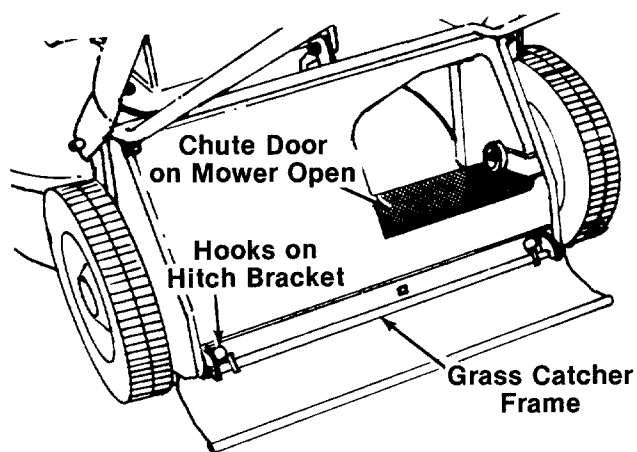

FIGURE 16.
1. Attach the grass catcher frame to grass catcher hitch bracket on rear of the mower by hooking grass catcher into hooks on grass catcher hitch bracket. See figure 16.
2. Lift the rear of grass catcher up. The roller on the grass catcher will push the chute door on the mower open. See figure 16.
Figure 16 is shown with the chute door open for clarity only.